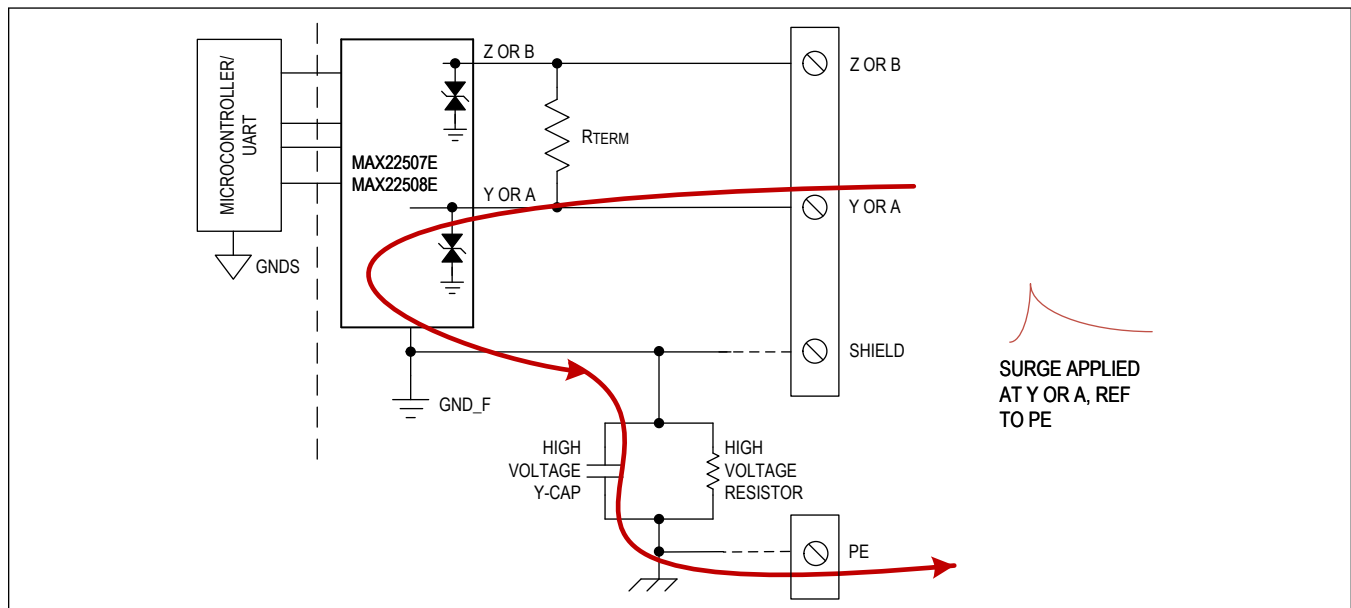

Figure 14. Surge Protection
Per the IEC 61000-4-5 standard, surge pulses must be referenced to protective earth (PE). Isolate PE from the field ground and connect a high voltage capacitor and a high voltage resistor between the field ground and PE. Figure 14 shows the current flow through the transceiver and PCB during a surge event. The MAX22507E/MAX22508E survived 8/20 μ s surge testing up to \pm 2kV/42 Ω with a 1000pF high-voltage capacitor without the need for external TVS protection.